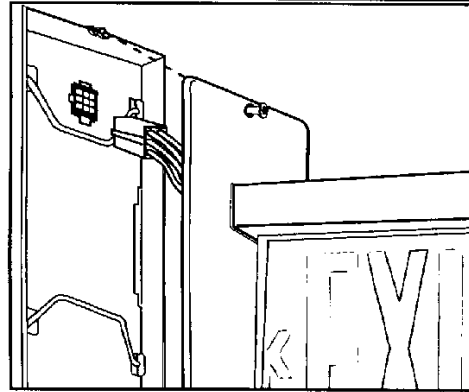

Fig. 4
Step 9. End Mount Units Only - Secure face to housing by tightening face plate to mounting screw to housing located at top of face plate. (See Fig. 4 and 5)
- Step 6.** Connect nine position mate-n-lock attached to trim assembly to mating connector to housing. (See Fig. 4)